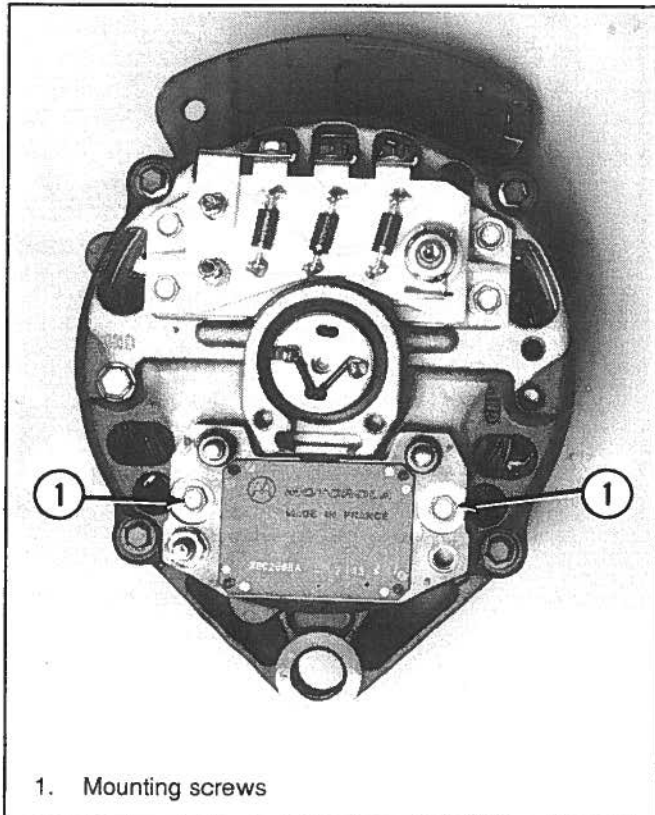

Figure 6-69. Voltage Regulator Removal
3. Remove two mounting screws (1) (Figure 6-69) to remove the voltage regulator and two washers under the regulator.